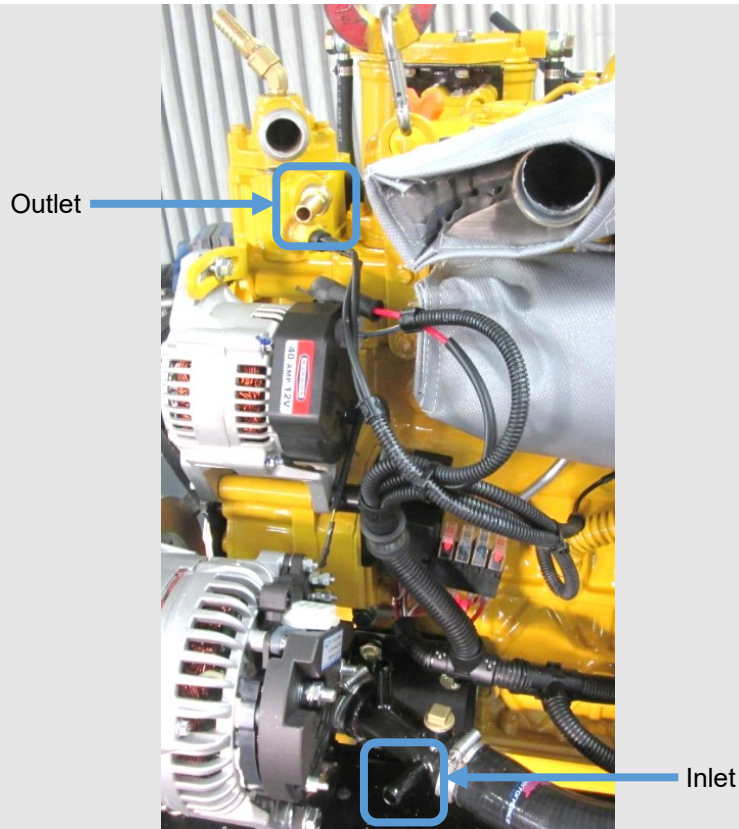

Figure 12: Calorifier Connections
- The connections for the calorifier are shown on (**Figure 12**)